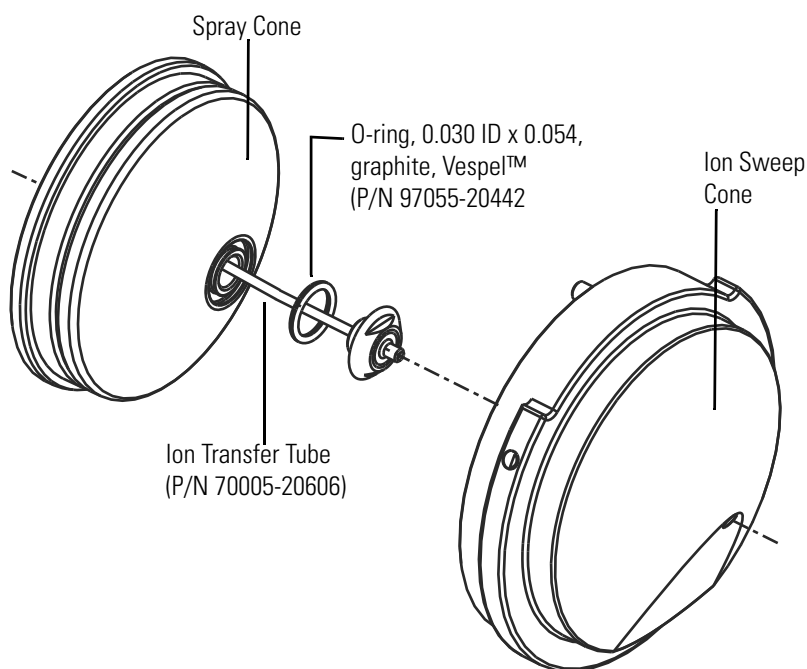

Figure 8-10. Spray cone, O-ring, ion transfer tube, and ion sweep cone of the ion source interface with S-lens
5. Remove the ion transfer tube by turning it counterclockwise with the custom removal tool until you can pull it free from the ion source interface. See Figure 8-10.